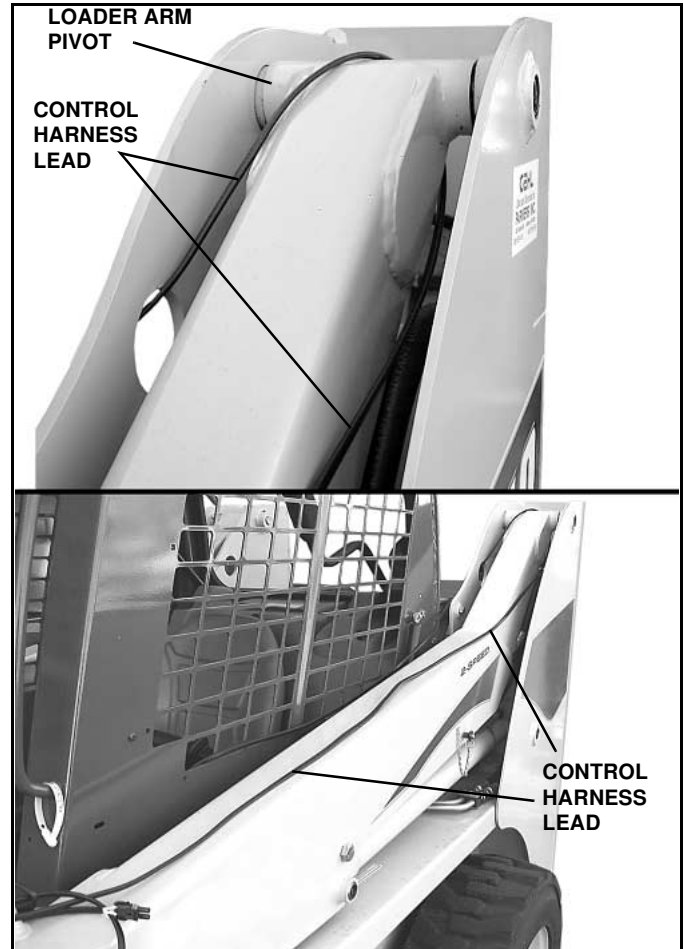

Figure 2-25
3. Route the control harness lead around the pivot point on the loader arms on the back of the Skid Steer and down the top of the loader arms to the front. Allow enough slack when routing wire so that wiring is not put in tension when the loader arms are moved. Position the wiring to prevent pinching when loader arms pivot, and secure with cable ties. (See Figure 2-25).